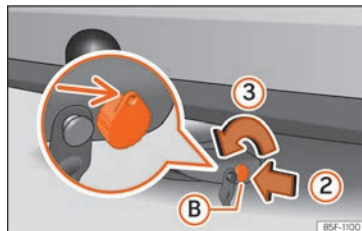

Fig. 300 Releasing the lock.
- Insert key (B) into the lock in the direction of arrow (2) »» Fig. 300.
- Turn the key in the direction of arrow (3) until the part of the key with the holes is facing upwards.